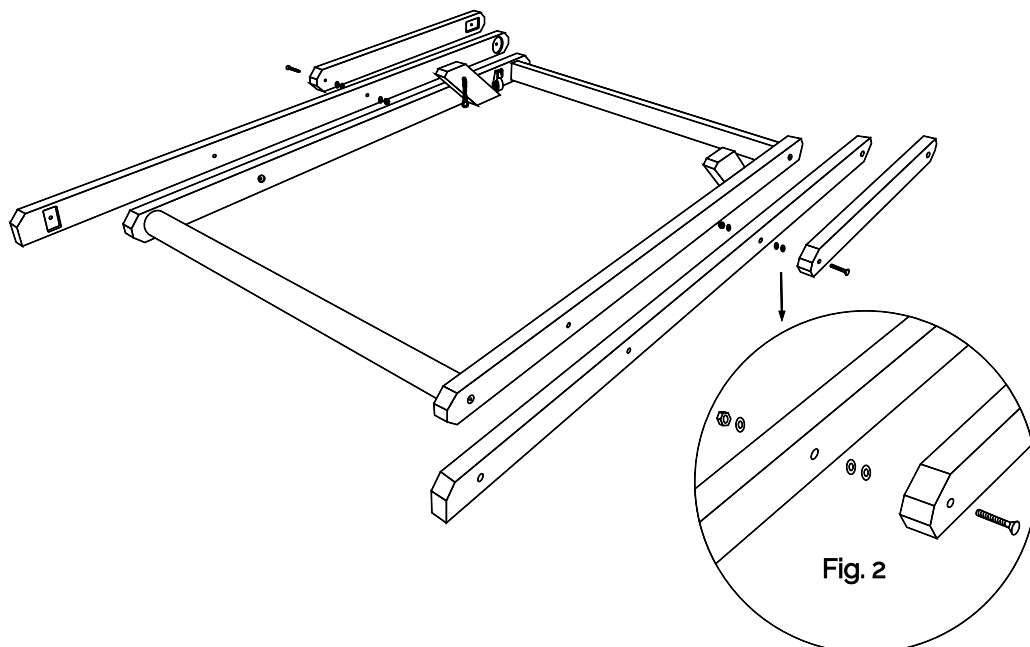

Fig. 2
5. Insert **K** bolt through 1x **Prop H** (**Fig. 2**). Slide two washers **M** onto the end of the bolt between **Prop H** and **Left Outer Leg I** and then continue to insert **K** bolt into **I**. Slide a third washer **M** onto the end of the bolt on the inner side of **I**. Hold **K** with a 6mm hex key and secure bolt with an **N** nut using a 17mm socket. Ensure that half a thread on **K** is protruding from the nut.